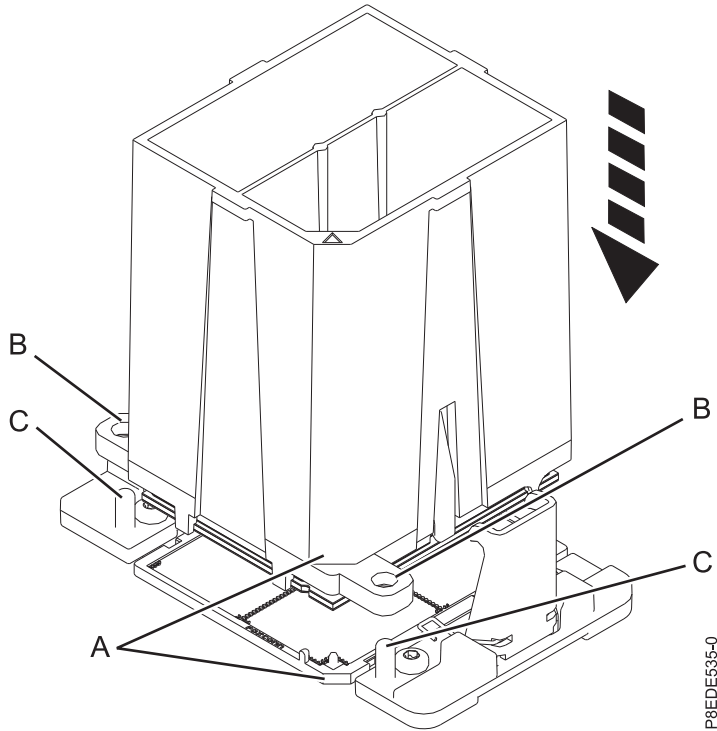

Figure 37. Installing the system processor module
- b. Lower the tool and system processor module onto the socket. Align the beveled corner **(A)** of the tool with the beveled corner on the socket. Ensure that the two guide pins **(C)** are inserted into the alignment holes **(B)** on each side of the tool. Use care to lower the tool evenly without tilting the tool. See Figure 37 on page 37.